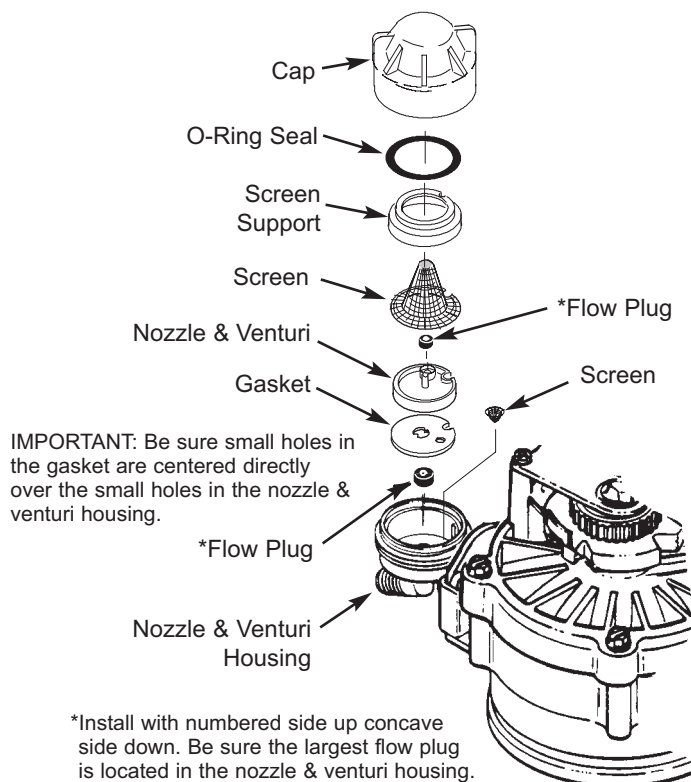

FIG. 84
A clean nozzle & venturi (See Figure 84) is necessary for the water softener to work properly. This small unit creates the suction to move brine from the brine tank into the resin tank. If it should become plugged with dirt, silt, sand, etc., the softener will not work and hard water will result.
10. If water does not enter the tank, look for an obstructed nozzle / venturi, fill flow plug or brine tube (See Figure 84 on Page 24).